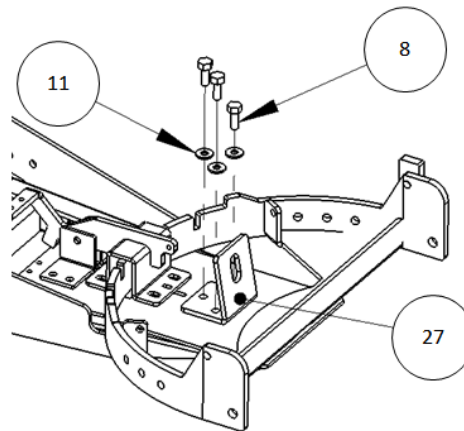

Figure 7
- 5) Install the Winch Attachment Bracket (#27) using the 3/8" Bolts (#8) and washers (#11). **(Figure 7)**